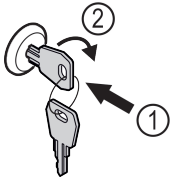

Fig. 158
- ▶ Insert the key. Fig. 158 (1)
- ▶ Turn the key clockwise by 90°. Fig. 158 (2)